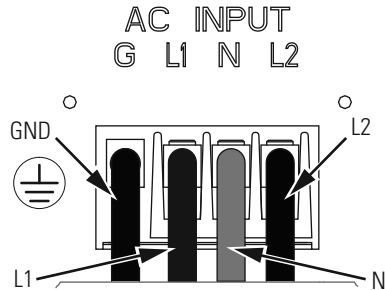

Figure 16. UPS Input Wiring
6. At the AC Input terminal, make sure to wire the UPS for the proper input voltage as shown in Figure 16.